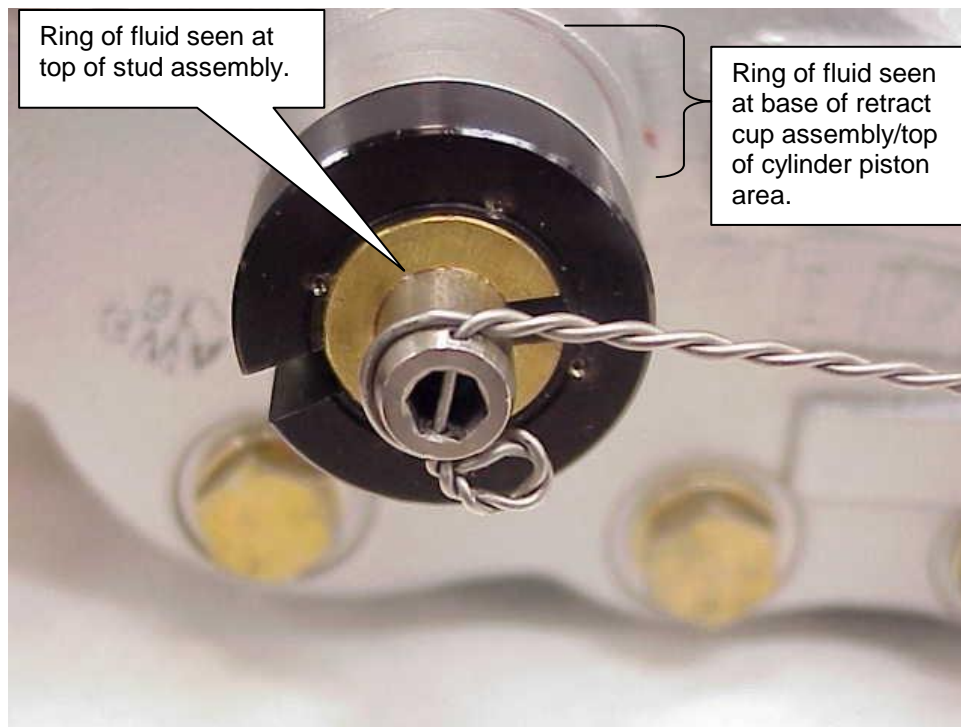
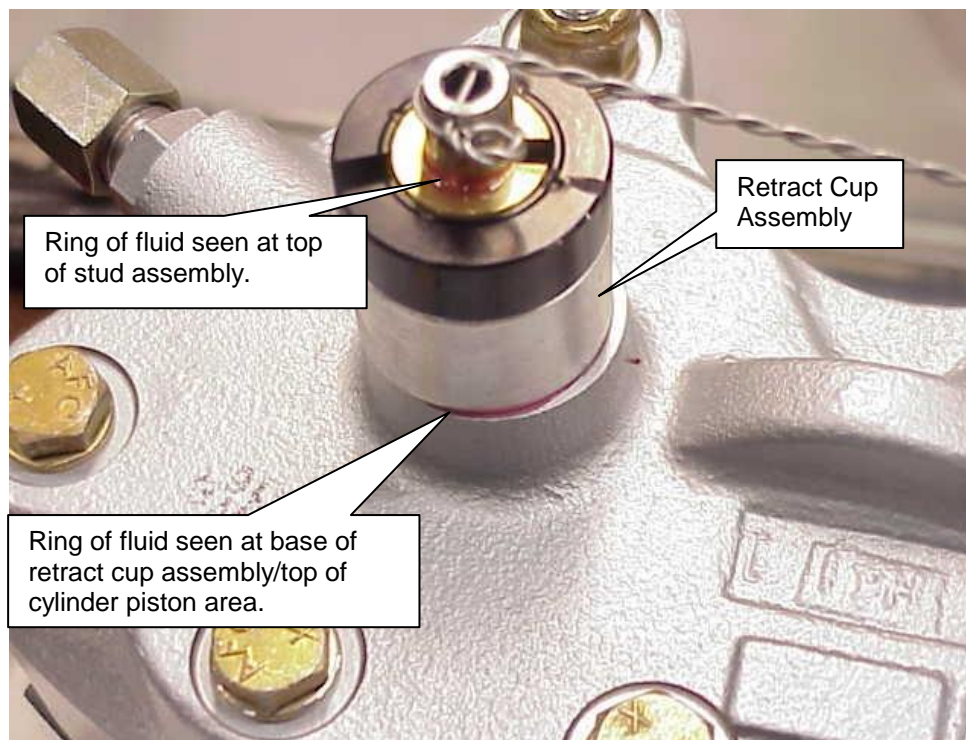

Figure 1 Leakage Indication – Example 1 (091-22000 shown)
Figure 2 Leakage Indication – Example 2 (091-22000 shown)
- (1) Clean the external surfaces of the brake surrounding the brake retracts.
- (2) Perform a low pressure hold test by applying the parking brake per the aircraft POH (Pilot Operating Handbook). Park the aircraft for 12 hours minimum. Place leak collection paper or other suitable device under the brake assembly. This will aid in confirming a leakage condition and also to capture any hydraulic fluid.
- (3) Visually inspect the piston area for leakage indications as shown as examples in Figures 1 and Figure 2.